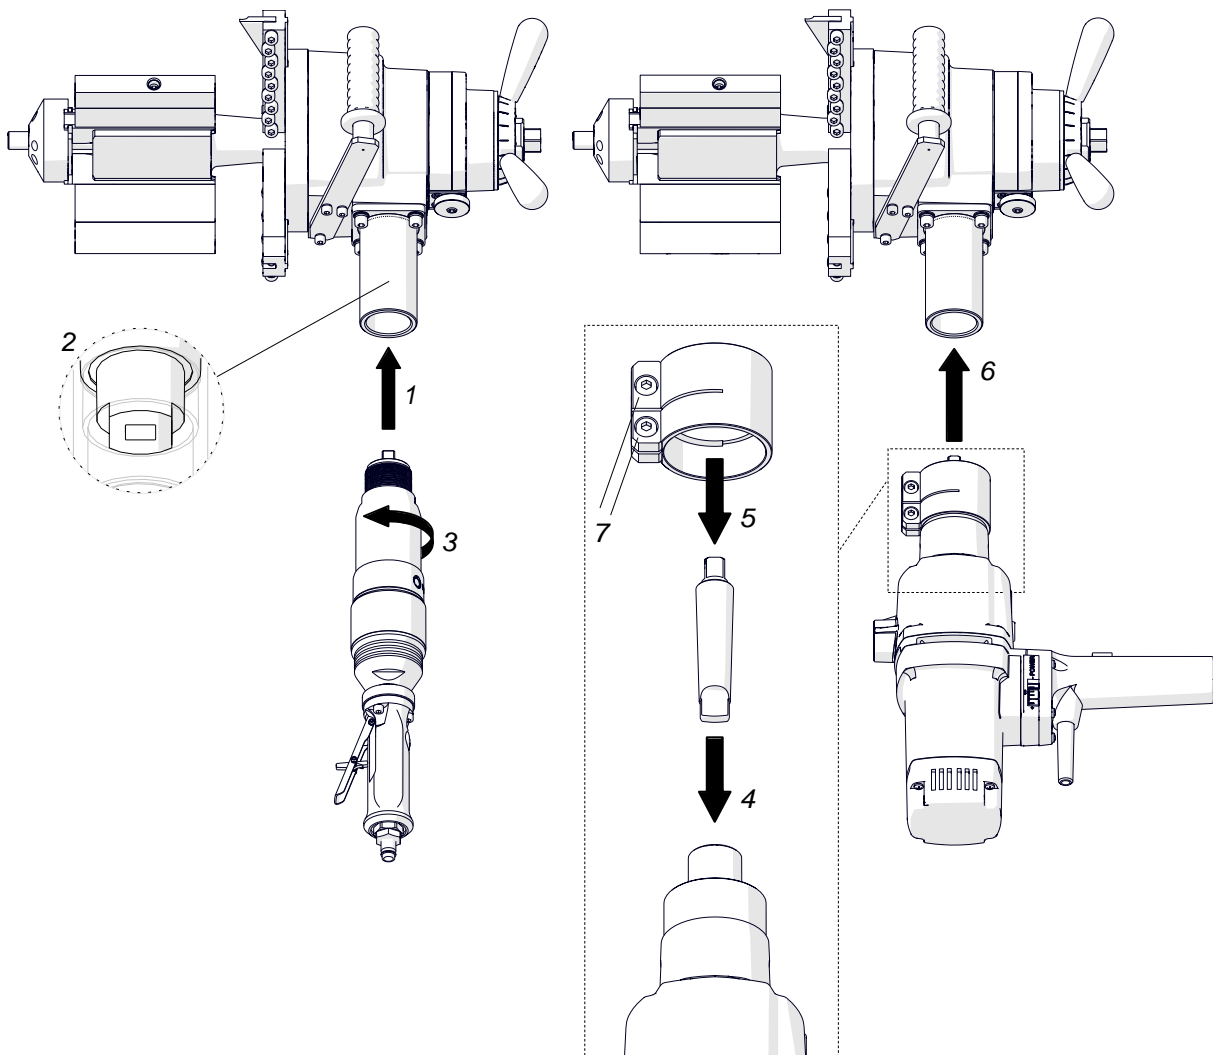

Fig. 4. Installing the air and electric motor
When using air motor, insert it into the machine (1, Fig. 4) so that the arbor is placed in the socket (2). Then, rotate the motor to the left (3) to tighten it.